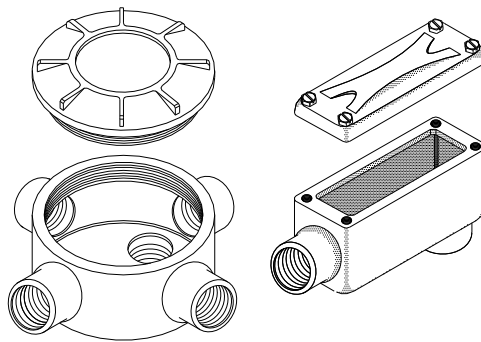

Figure 6. Dusttight Boxes & Fittings
- 5.4.2. Boxes and fittings for splices, taps, or terminations must be of the threaded type with close-fitting covers. See Figure 6.